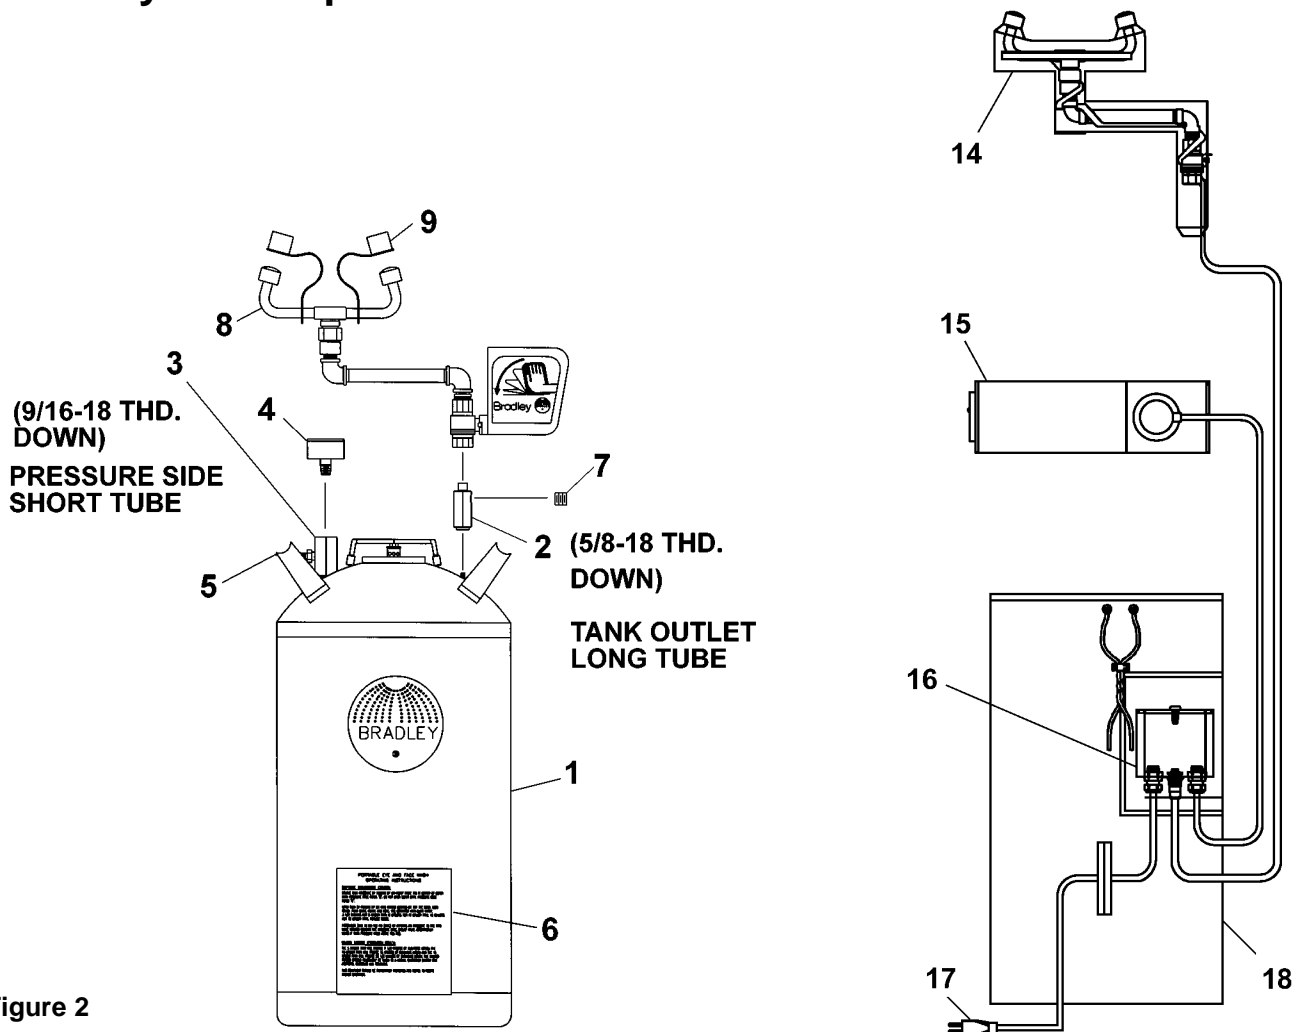

Figure 2
Separate all parts from packaging and check each part with Figure 2 and the parts list on page 6. Make sure all parts are accounted for before discarding any packaging material. If any parts are missing, do not attempt to assemble your Bradley 10-Gallon Tank until you obtain the missing parts.
2. Attach the pressure gauge to the adapter on the pressure side of the tank with pipe sealant (supplied by installer) as shown in Figure 2 on page 6.